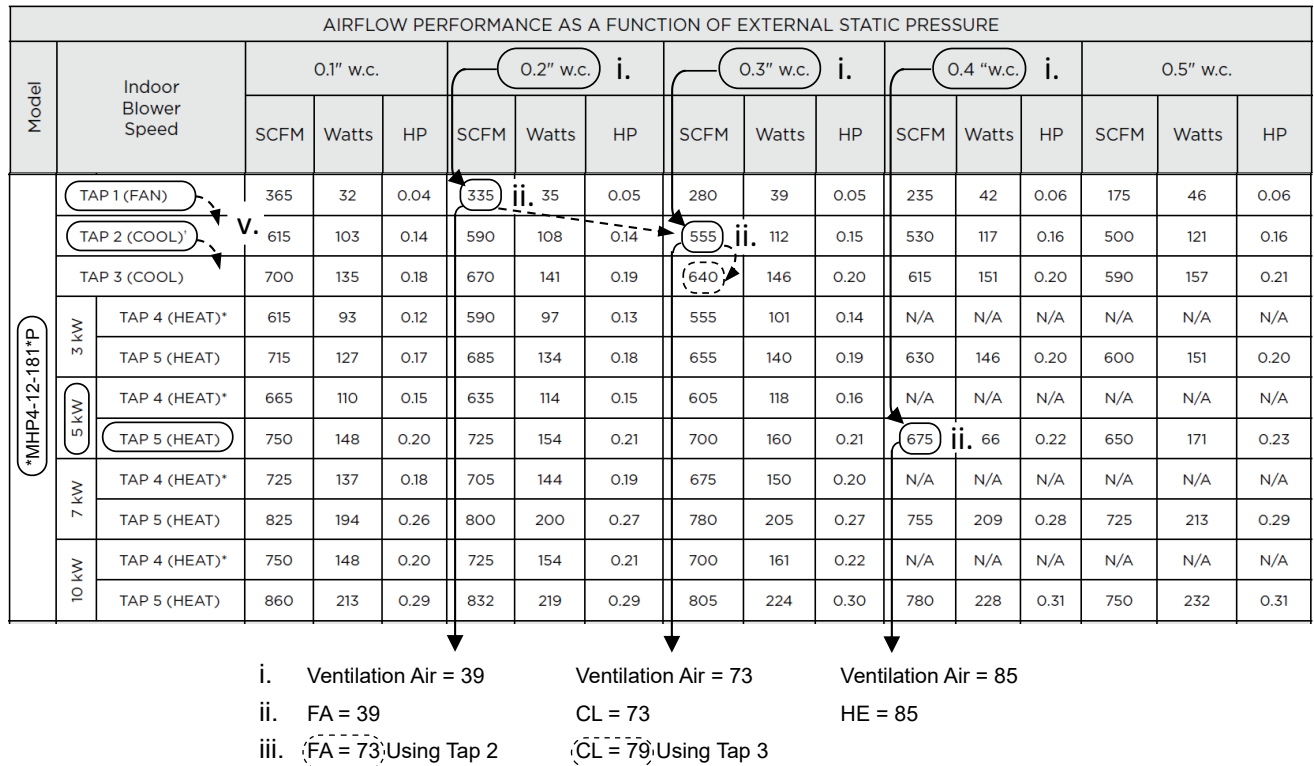

Figure 7.
- b. Program ventilation airflow amounts using Table 3, and consulting the blower performance tables included in the unit's Installation Instructions. See Figure 7 and steps i through v below as an example.